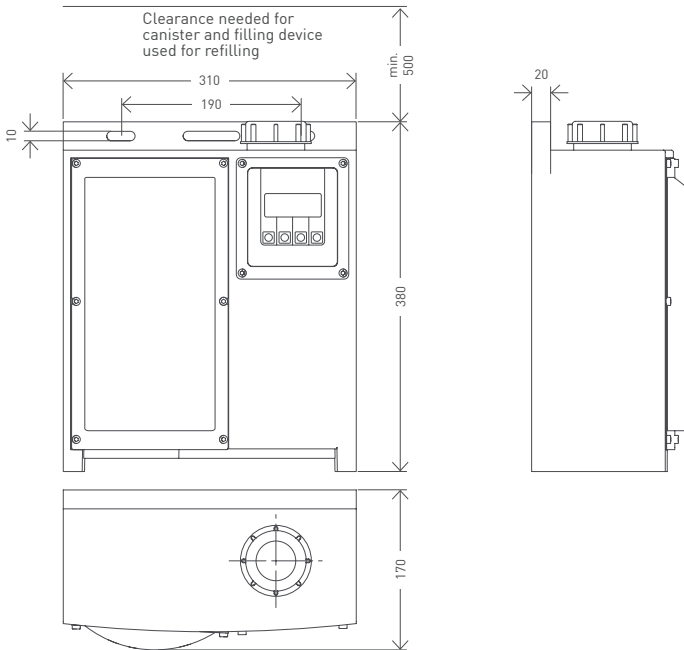

Fig. 3-3 External dimensions in mm
- Pay attention to the required clearance for the filling container and the filling device (Fig. 3-3).
- Bore the holes horizontally at a distance of 190 ± 5 mm (7.48 ± 0.2 in) according to fig. 3-3 and fix the system with screws. Finger tighten screws and add a quarter turn.